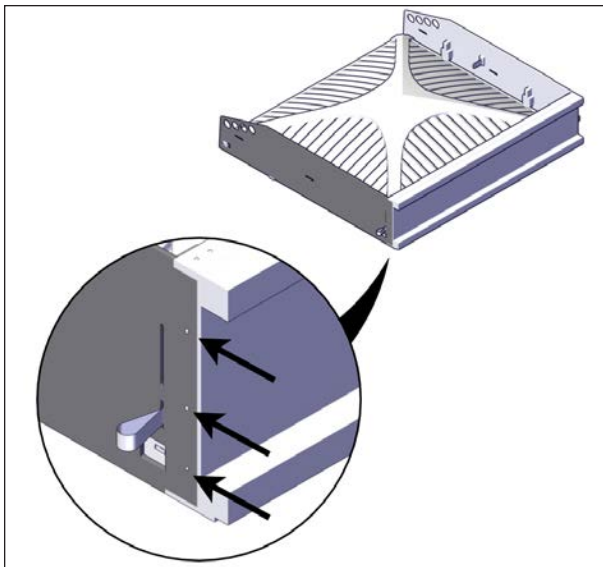

FIGURE 30: SIDE PANEL SCREW REMOVAL
19. Use the Robertson screwdriver to remove the three #8 x 1½" screws holding both side panels to the bottom of the crate see Figure 30.